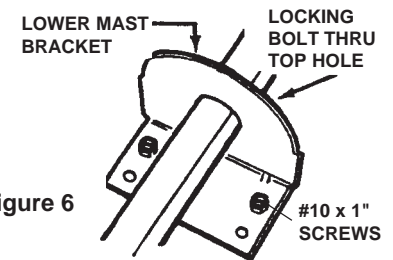

Figure 6
STEP 13. Slide antenna assembly down thru mast brackets. Insert locking bolt thru top hole in mast so it will be above lower mast bracket. See Figure 6. Antenna should rest on locking bolt.